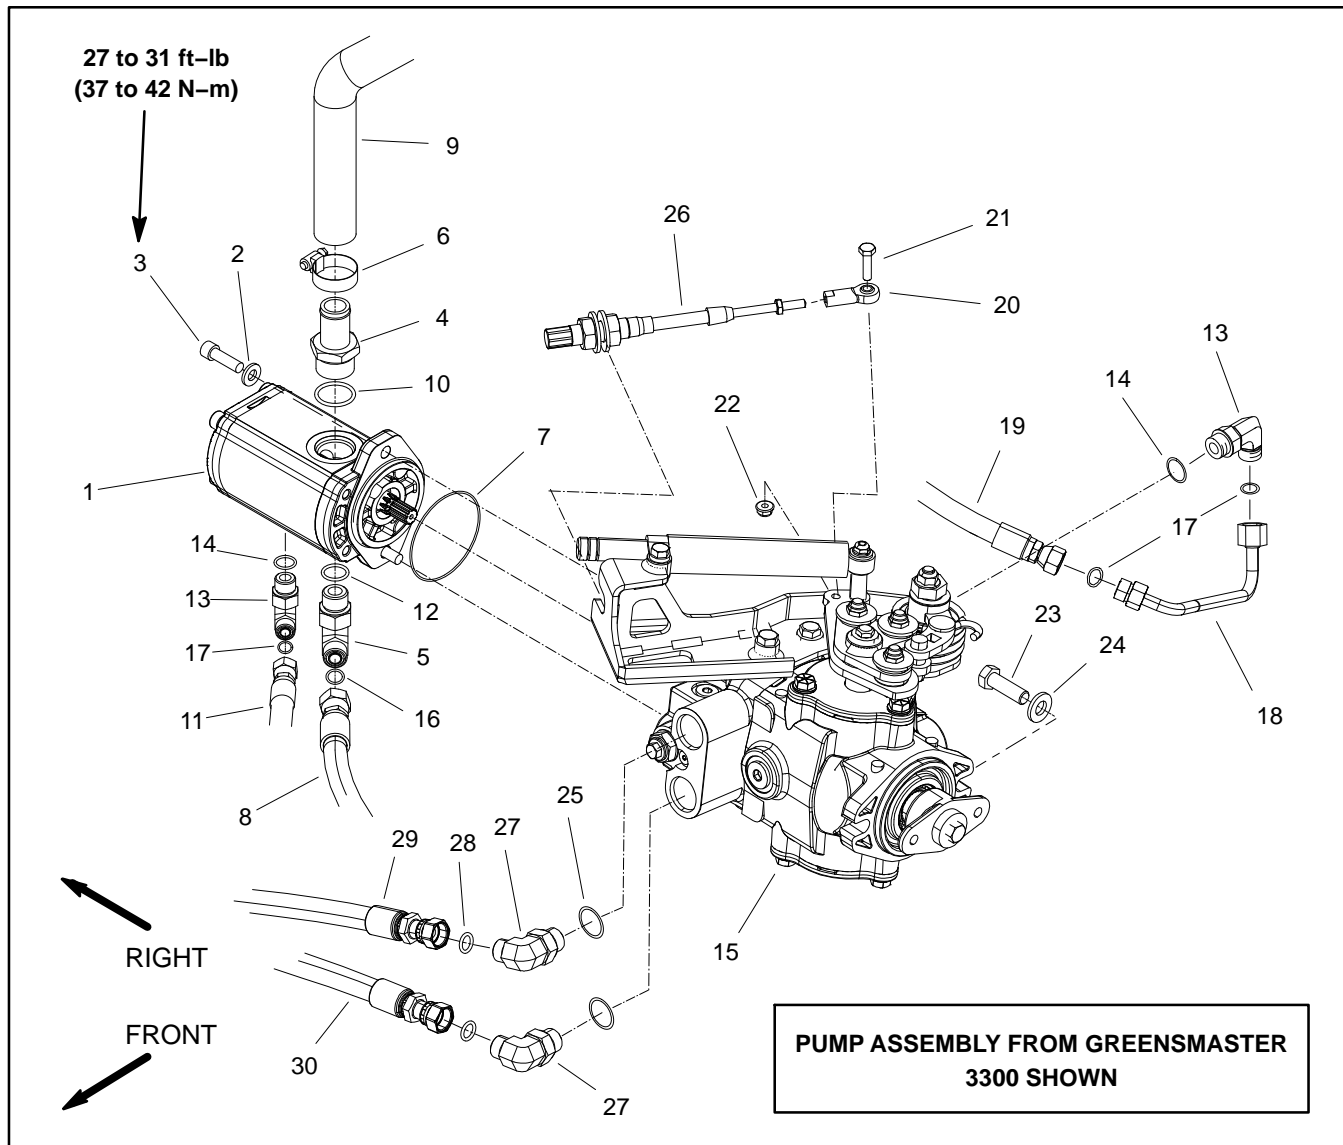

Figure 44
**NOTE:** The piston pump assembly used on all Greensmaster TriFlex machines are very similar. The pump assembly from the Greensmaster 3300 machine is shown in Figure 44.
## Piston Pump Removal (Fig. 44)
## Piston Pump Installation (Fig. 44)